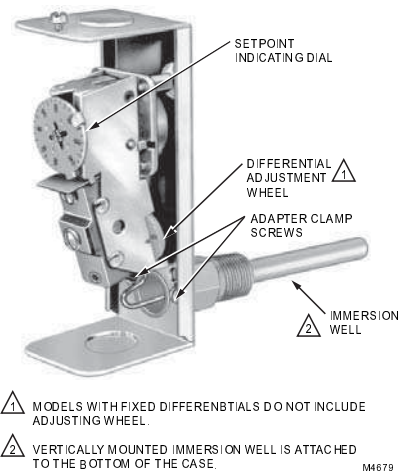

Fig. 1. Internal view of L4006A,B with horizontal well. L4006E is the same with reset button added.
1. Loosen, but do not remove, the two adapter clamp screws (see Fig. 1).
4. Loosen, but do not remove, the two adapter clamp screws (Fig. 1).